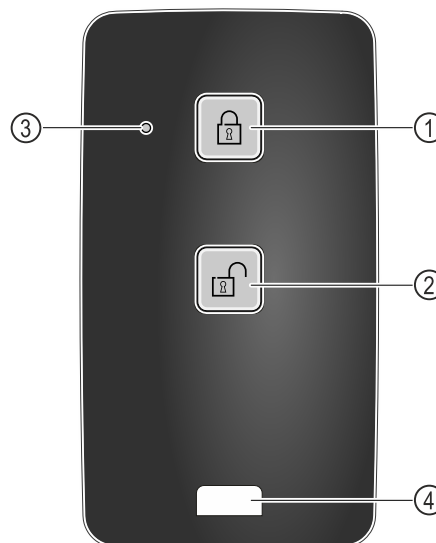

Fig. 212
- (1) Engage lock
- (2) Unlock lock
- (3) Status LED
- (4) Fastening eyelet
- ▶ Press button *Fig. 212 (1)* on the remote control.
- ▶ Press button *Fig. 212 (2)* on the remote control.
- ▶ Status LED *Fig. 212 (3)* provides a visual acknowledgement when you press the button.
- ▶ Eyelet *Fig. 212 (4)* for attaching remote control, for example, to a key ring.